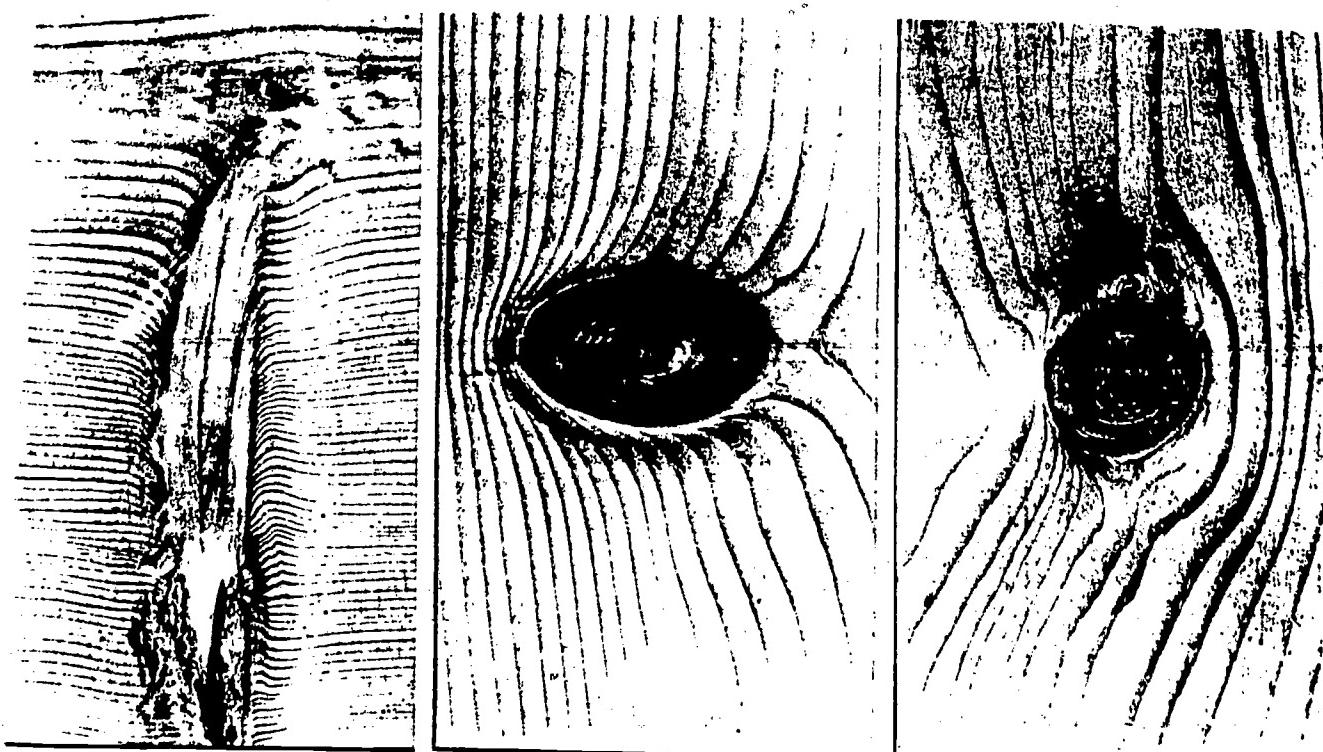
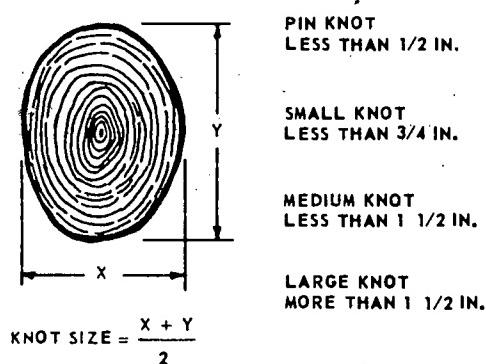

Fig. 4-14. Common kinds of knots. Left. Spike. Center. Intergrown. Right. Enclosed. An enclosed knot will usually loosen and fall out. (Forest Products Lab.)
Fig. 4-15. Knot sizes.
**KNOTS:** Caused by an imbedded branch or limb of the tree, figure 4-14. They are generally considered to be strength reducing - the amount depending upon the type, size and location, see figure 4-15.